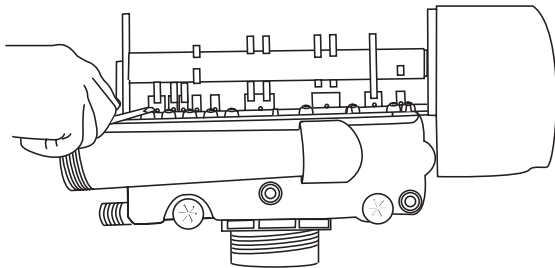

Figure 11
4. Relieve system pressure by opening the Backwash Drain Valve (the seventh valve back from the control) with a screwdriver, Figure 11.